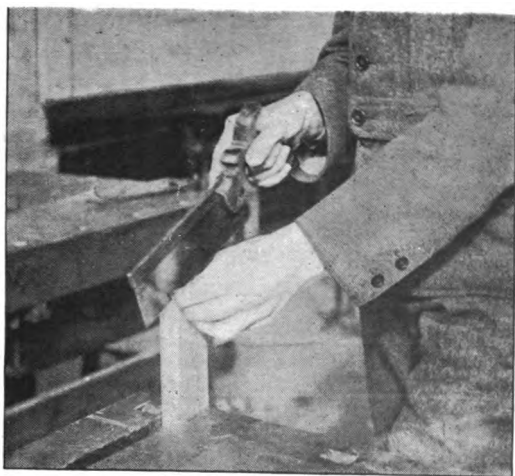

FIG. 81. (EXERCISE 18).
**DRAWING.**—Plan, elevation, section, and isometric projection (Fig. 81).